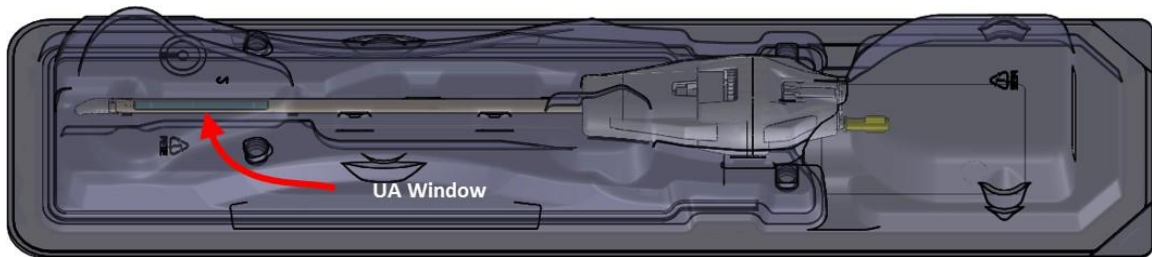

Figure 14: Examine the UA window for air bubbles
- d. When the purge cycle is complete, look through the package and carefully inspect the UA window for bubbles while raising and lowering the tip of the UA (*Figure 14*). There should be **no** bubbles of **any** size. If you see bubbles, turn on the pump and gently tap the package-end close to the UA window to dislodge them. If you still see bubbles, repeat this step until all bubbles have been eliminated.